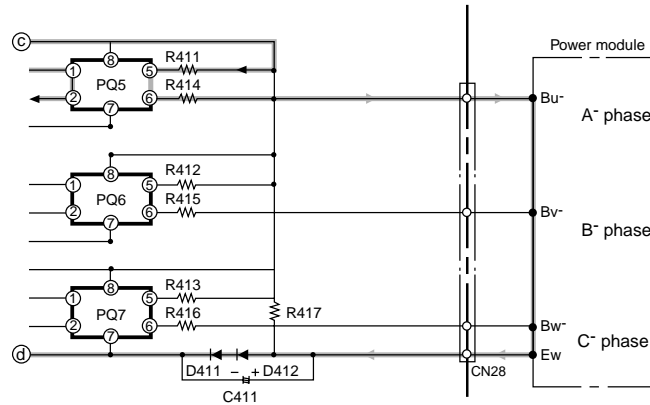

Fig. 7-4
- As described in the rotor magnetic pole position detecting circuit, the upper arm drive circuit supplies current to the bases of the transistors on the power module's positive ⊕ side which turn on or off according to the position detection signals. The signals according to the position detection signals are output from pins ②③, ②④ and ②⑤ of the micro computer and are input to pins ② of photocouplers PQ501 - PQ503 via driver IC1.
(2) Lower Arm Drive Circuit
- Fig. 7-4 shows the lower arm drive circuit.
- When pin ③⑤ of the micro computer goes "Lo" → "Hi", a photocoupler between PQ601 pins ① and ② turns on and current flows to terminal ① → R601 → PQ601 → R604 → power module's BU⁻ terminals → Ew⁻ terminals → D602 → D601 → terminal ① and drives the lower arm transistors. (Fig. 7-4)
- The signals which turn on or off according to the position detection signals are output from pins ③③③④③⑤ of the micro computer in the same way as in the upper arm drive circuit and are input to pins ① of photocouplers P601 and PQ602 via driver IC1.